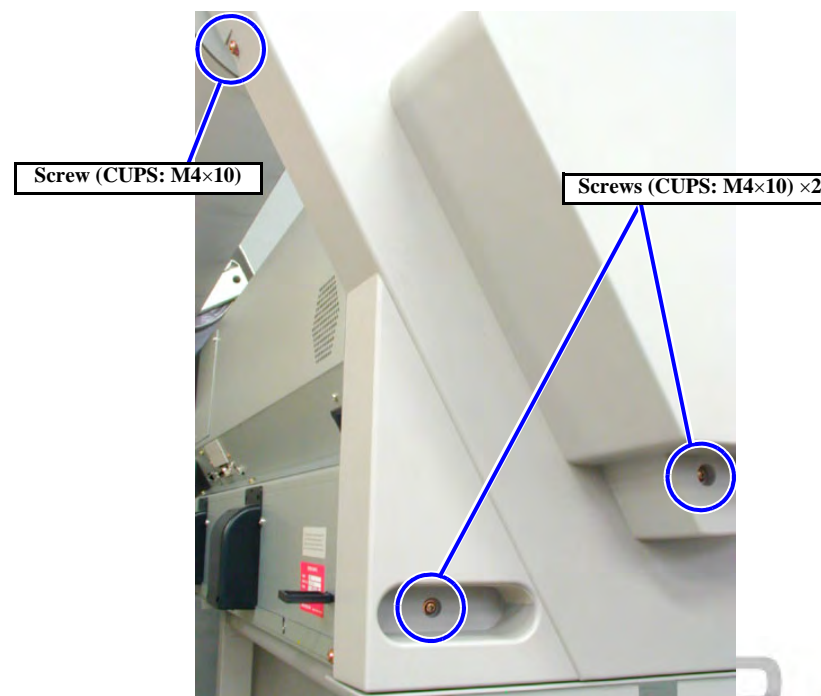

Figure 4-12. L Side Cover Removal 2/2
3. From the back side, remove one screw (CUPS: M4×8). (See Figure 4-12)